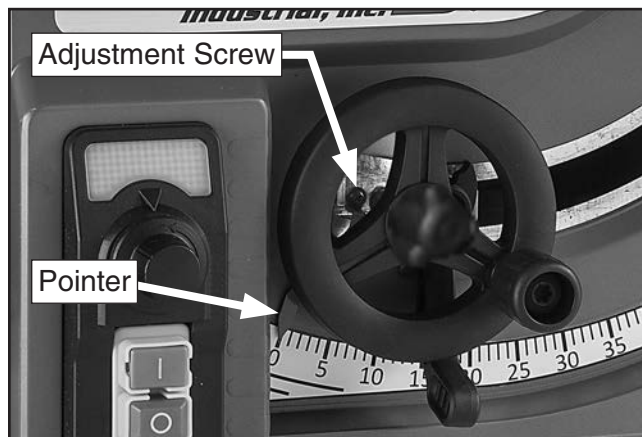

Figure 80. Location of tilt scale pointer and adjustment screw.
— If blade *is* 90° to table, then no adjustment to stop cam is necessary. Make sure tilt scale pointer shown in **Figure 80** points to 0° mark on scale. If necessary, adjust position by loosening adjustment screw, moving pointer with your fingers, then tightening screw.
- If blade *is* 45° to table, then no adjustment to stop cam is necessary. Make sure tilt scale pointer shown in **Figure 80** on **Page 50** points to 45° mark on scale. If necessary, adjust position by loosening adjustment screw, moving pointer with your fingers, then tightening screw.